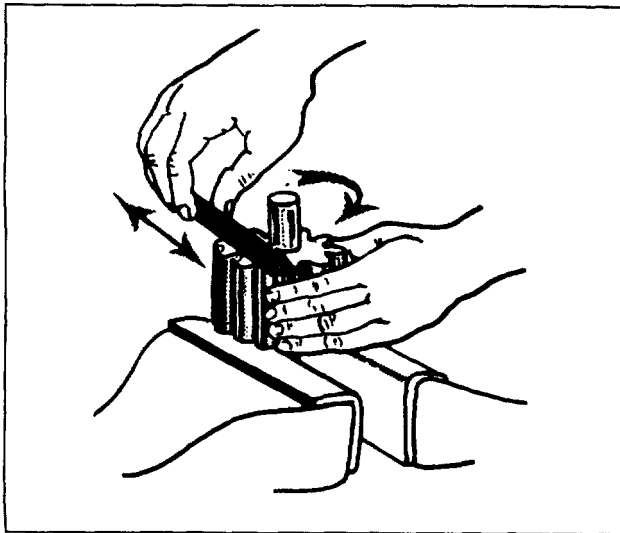

FIGURE 12 Use of India Stone on Gears
- e. Inspect edges of gear teeth and gear face for scoring. Stone the face of gears and edge of teeth before reassembly. (Figure 12).